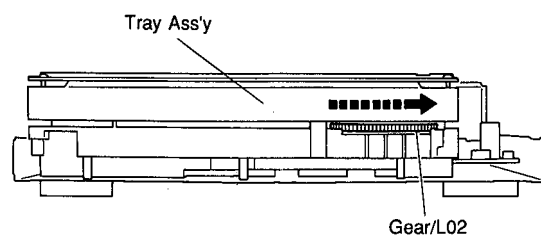

Fig. 2
- Turn Gear/L02 as shown in Fig. 2 counter clockwise gradually till immediately before the tray starts to move and stop it there.